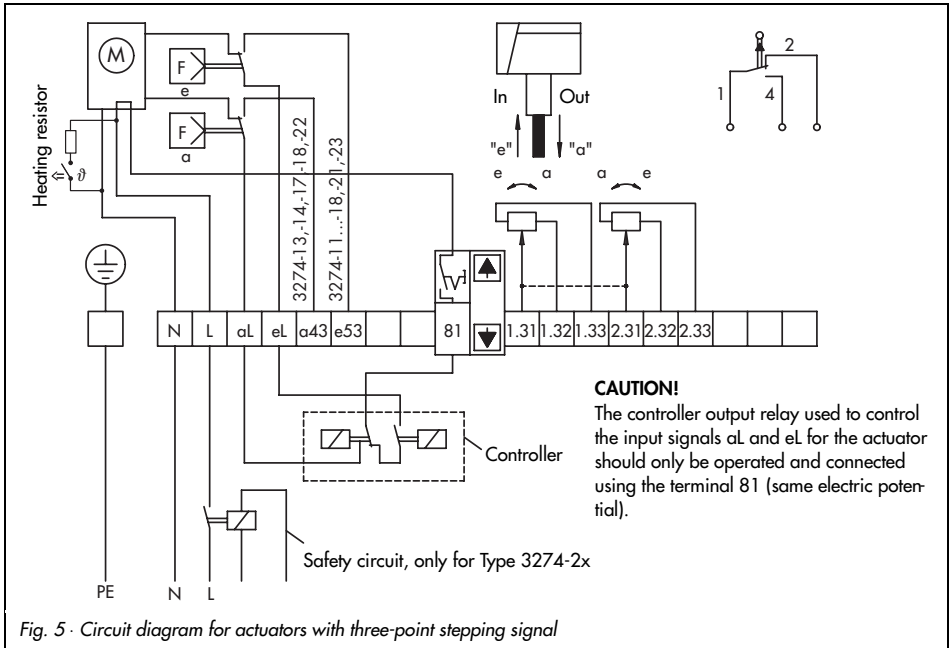

Fig. 5 - Circuit diagram for actuators with three-point stepping signal
- ▶ Remove the side case cover. Guide the wires through the cable glands on the case to the terminals and connect them (see Figs. 5 to 7 or the circuit diagram inside the case cover).
The board with the electronics section of the motor contains a clamp with a 5 x 20 mm glass-tube fuse which is used to protect the actuator and the contacts of the external controller when the actuator is wired as shown in Figs. 5 to 7.